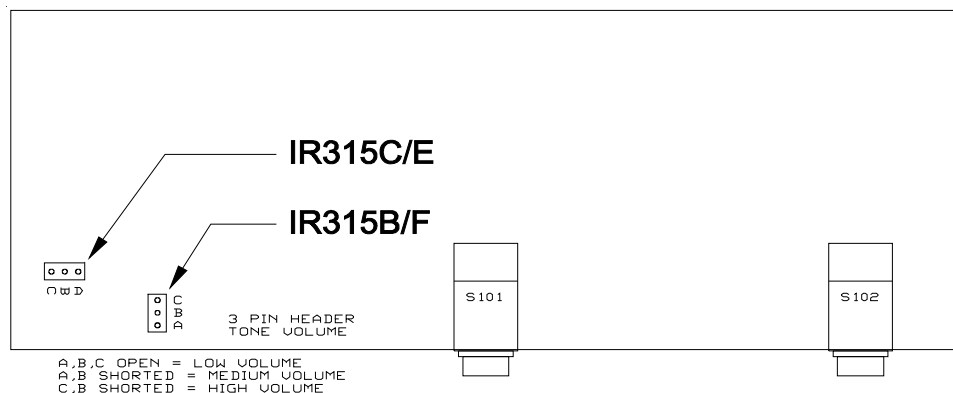

Figure 24 – IR315-series Duty Station Layout
**IR315-series Duty Station:** In addition to the dipswitch address settings, the IR315-series also has a tone control adjustment (via three pin header) to set annunciation tone levels. Refer to Figure 24 for header settings.